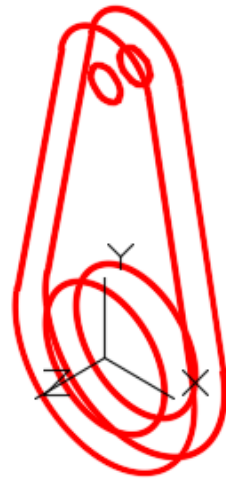

Figure Step 8
Step 8 Change the UCS to the front and locate it at the center of the circle. (Figure Step 8)